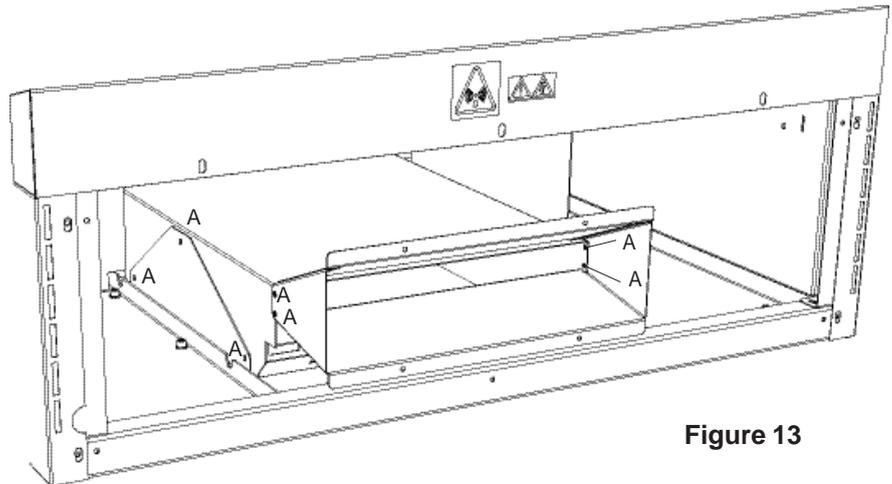

Figure 13
Remove flue by undoing fixings (A) on either side of generator. Refer to Figure 13.